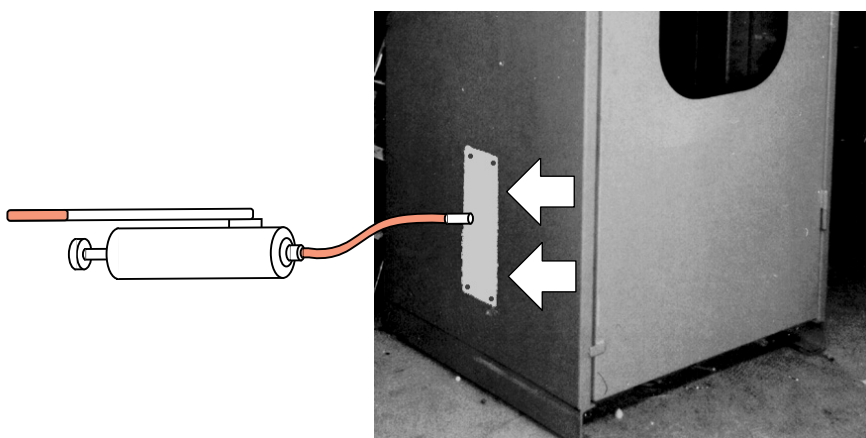

Fig. 8-3 Side cover and lubricating points
- ⇒ Remove the covers on both sides (Fig. 8-3).
- ⇒ Lubricate all rollers of the press ram guide (Fig. 8-3) with multi-purpose grease as required.